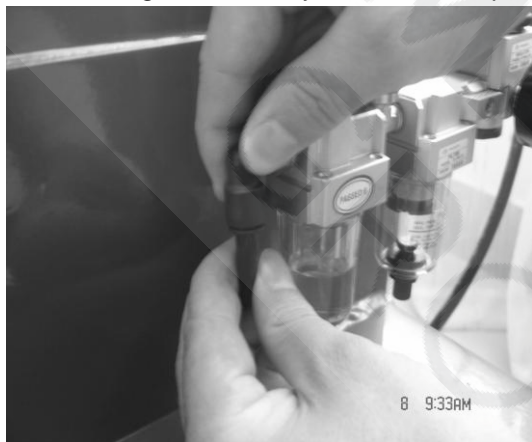

FIG15
3.3.2. Connect the air hose, detach the adapter of the $\varnothing 8$ PU hose on the side of the body. This adapter has the function to avoid the hose from sliding into the body. Insert the adapter into the elbow. See the fig14 and fig15.